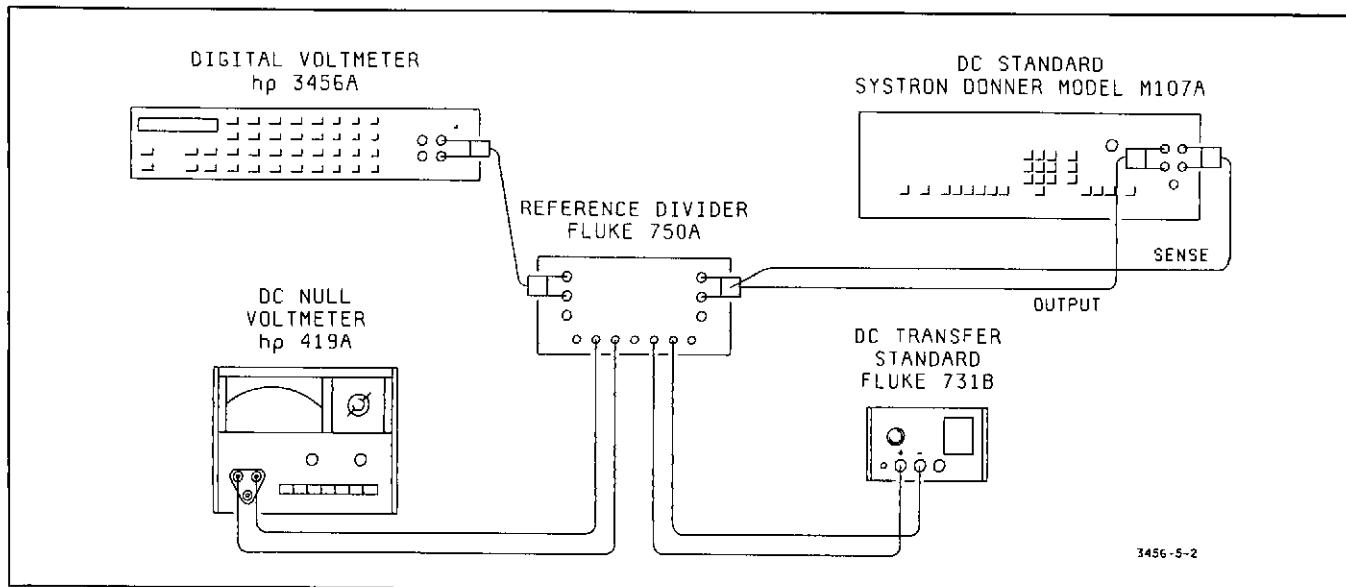

Figure 5-2. DCV Test Equipment Connection.
9. Using short pieces of number 20 AWG (or thinner) insulated solid copper wires, connect the Transfer Standard and the DC Null Voltmeter to the Reference Divider as shown in Figure 5-2 and 5-3.
10. Turn the DC Standard's output off. Using 24 inch or shorter shielded cables equipped with banana-plug connectors, connect the DC Standard and the 3456A to the Reference Divider as shown in Figure 5-2 and 5-3.